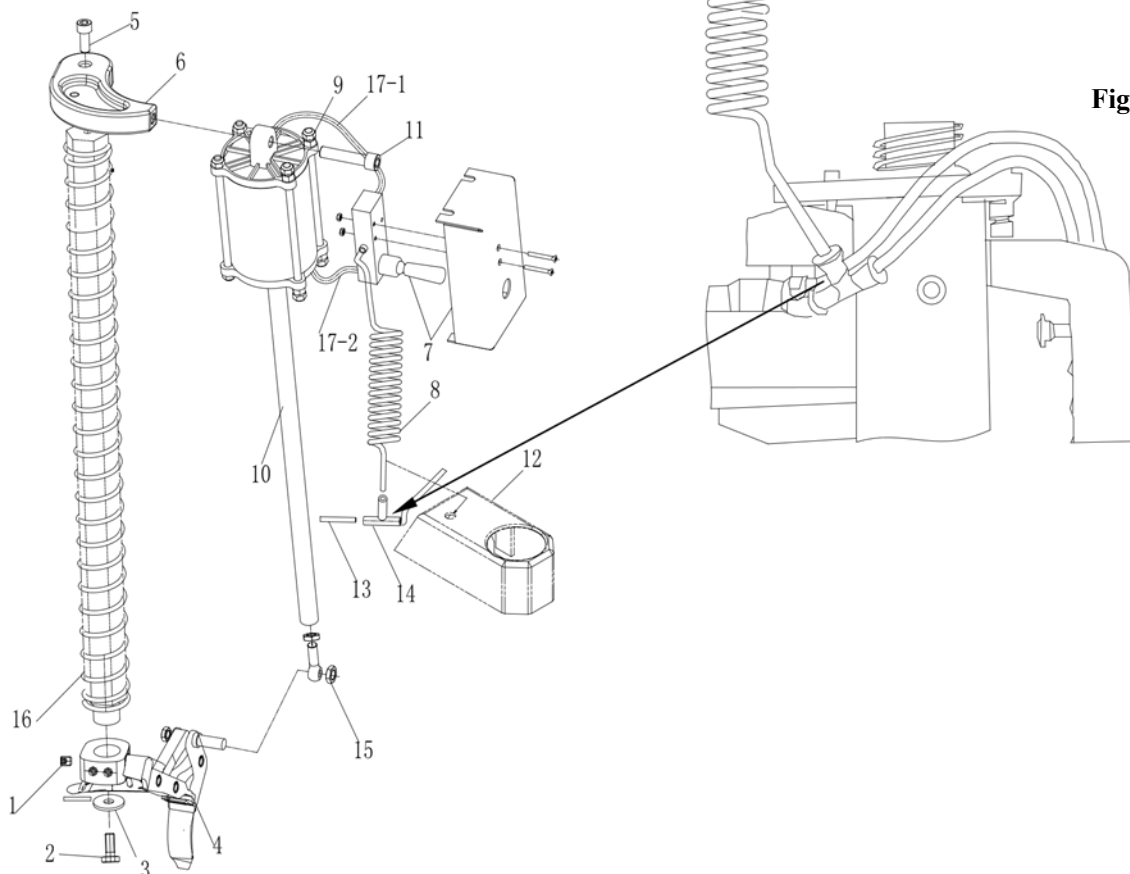

Fig 19
#### 14.6. Assembly (Fig 19)
**Fig 19** presents all the main parts of the automatic mount/demount head.